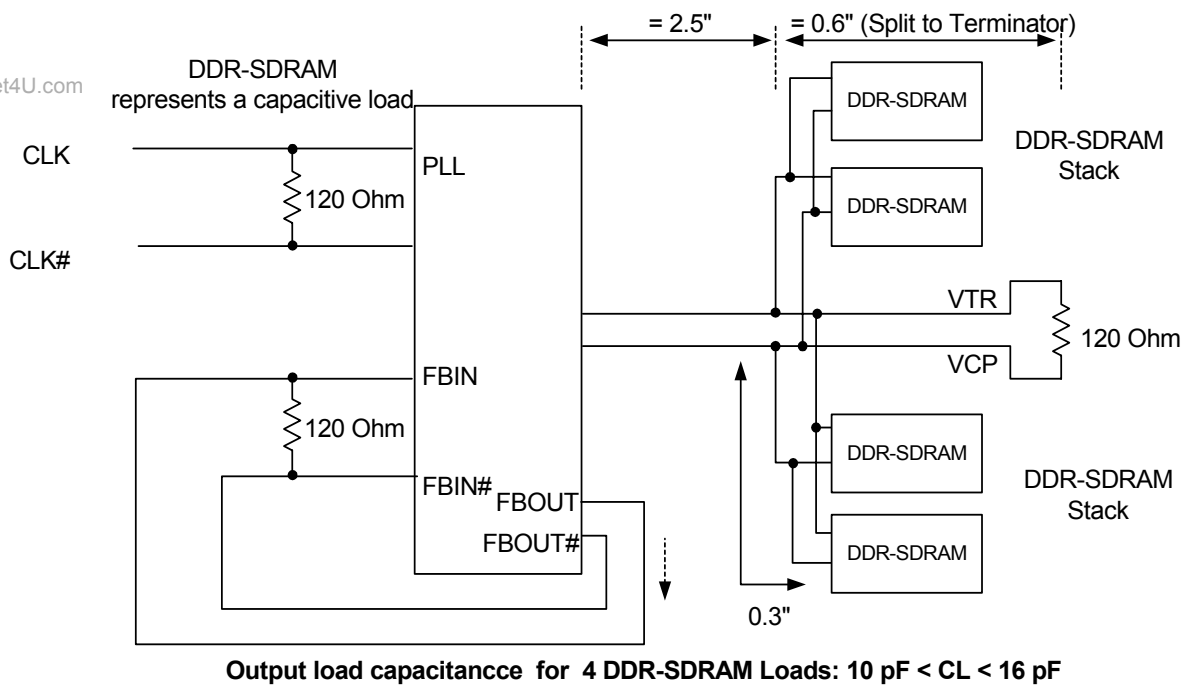

Figure 5. Clock Structure # 1
14. All differential input and output terminals are terminated with $120\Omega/16$ pF, as shown in *Figure 5*.